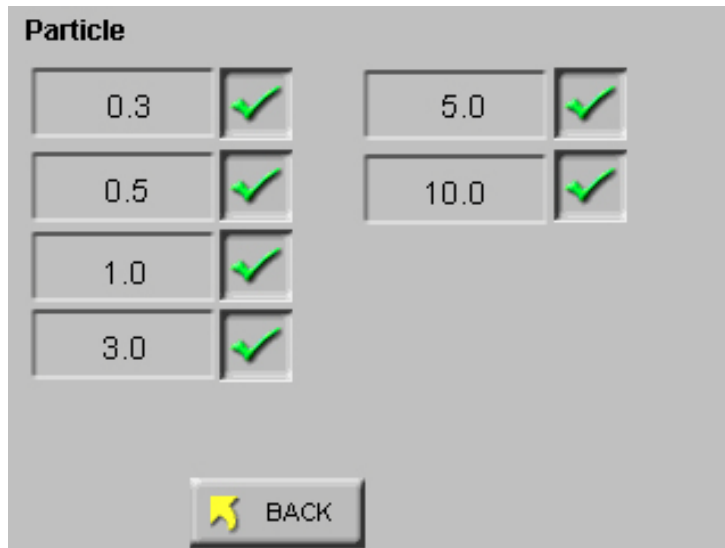

Figure 4-74 Reports Particle Screen
- Select the PARTICLE button to enable or disable particle channels as shown in Figure 4-74.